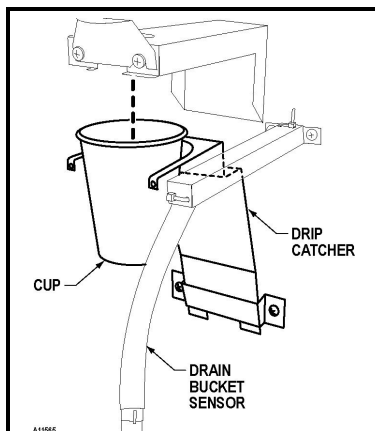

Figure 12a. Drip Catcher
2. Place a 7 oz or 8.25 oz cup on the Drip Catcher Cup Holder. See **Figure 12a**.